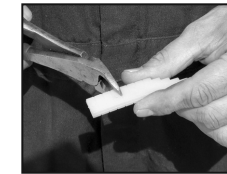

Fig. 1
Step 1. Trim referencing gauge to proper length, being sure not to cut the "stepped" portion. Proper gauge length is determined by chamber size, type and maximum stroke at which brakes should be readjusted. (See chart) (**Fig.1**)